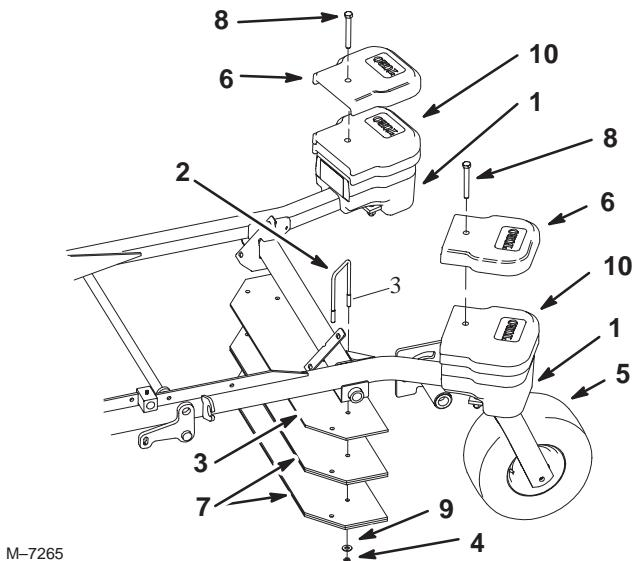

Figure 3
1. Place the top weights on top of the front caster weights (Fig. 3).
2. Secure the top weights with a bolt (1/2 x 4 inch) (Fig. 3).
4. Install the single and 2 double weight plates onto the machine frame with 2 U-bolts (3/8 x 6 inch), 2 washers (3/8 inch), and 2 nuts (3/8 inch) (Fig. 3).